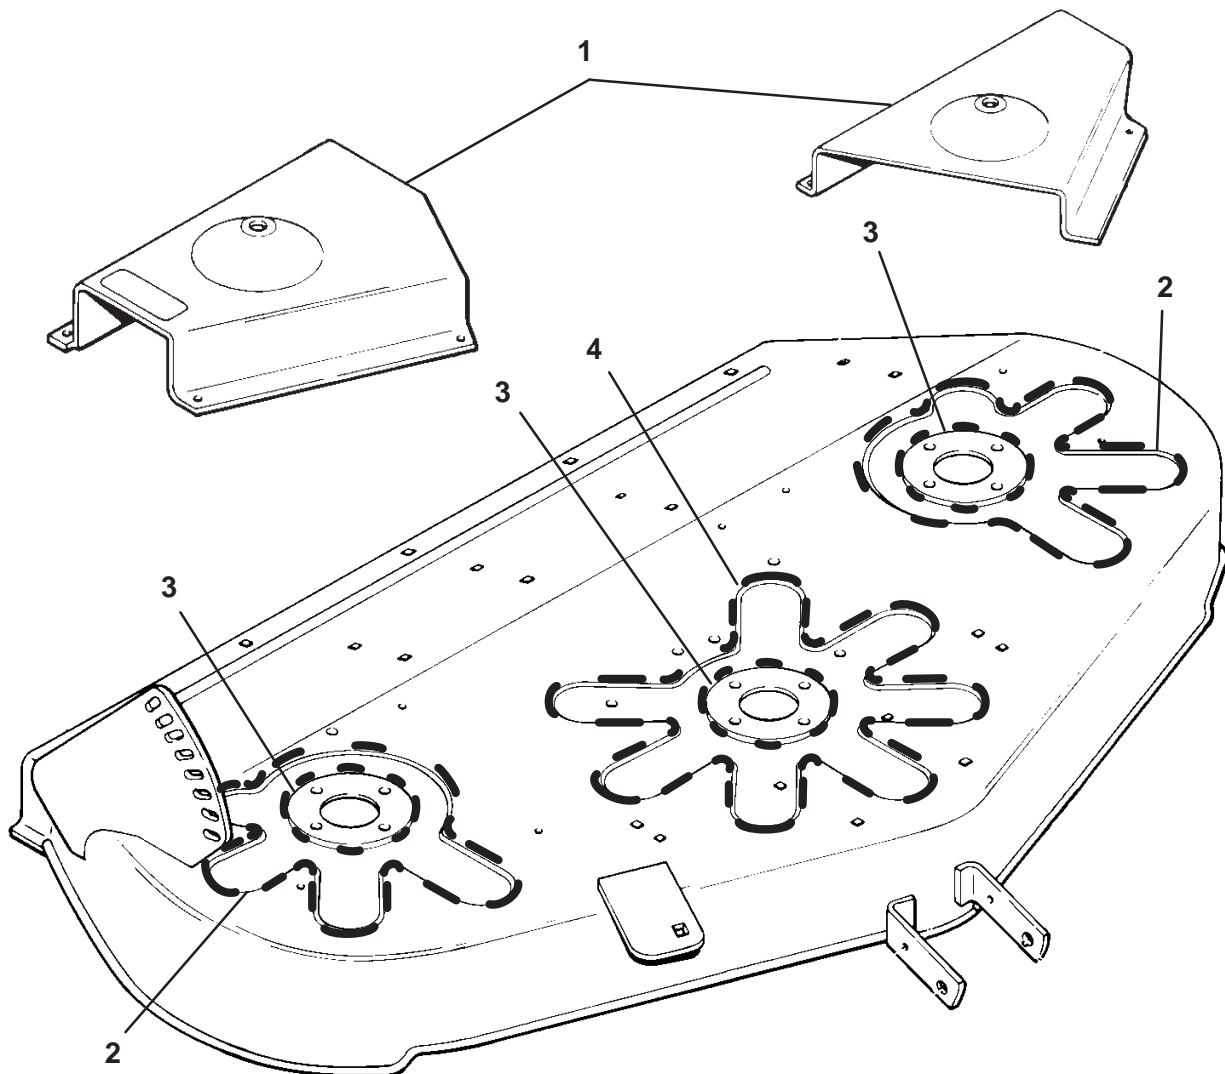

Figure 1
- 3 Place deck plates over center and outside spindle openings as shown (Fig. 1). Align plate bolt holes with bolt holes of mower deck spindle
openings (Fig. 1). Install spindles and clamp deck plates securely in position with mounting hardware previously removed.
- 4 Weld deck plates to mower at center and edges with 1/8" weld bead 1" long at each – (Fig. 1). Do not weld all around. Alternate from side to side to prevent heat build-up and distortion of mower.